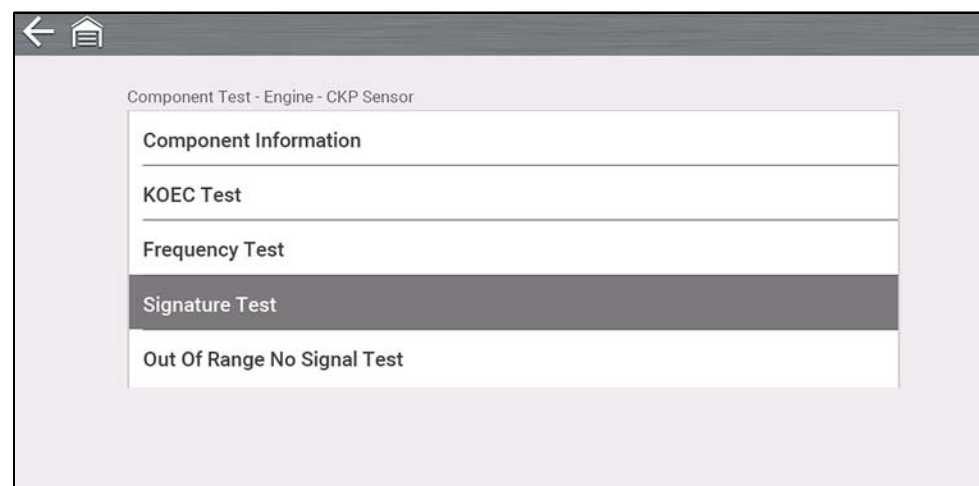

Figure 8-7
2. Select a **Test** from the Component Test menu (Figure 8-7).